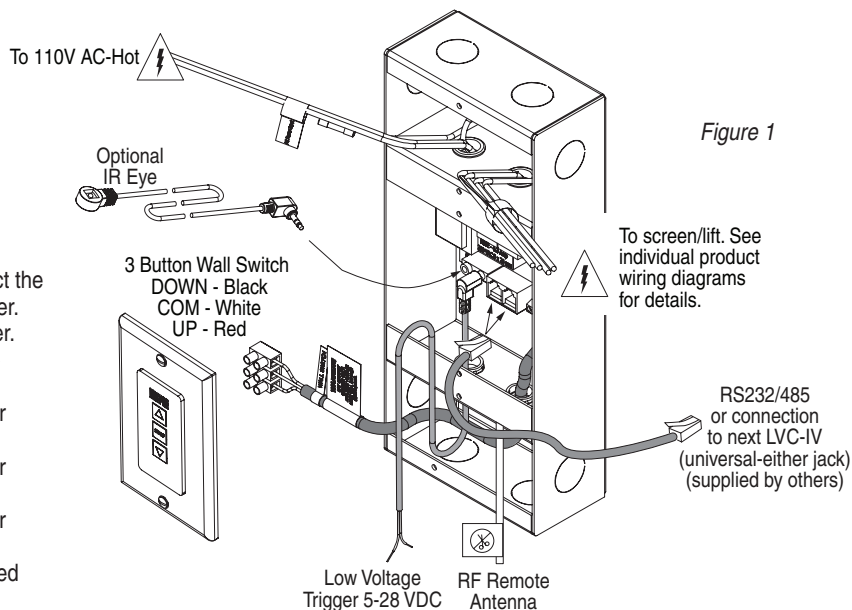

Figure 1
- ① Plug Optional IR Eye into mini plug input provided on LVC-IV (see Figs. 1 and 3).
- ② IR Remote Control transmitter does not need to be "learned" by the LVC-IV. Simply point and operate.
- ③ **Maximum IR Eye cable length is 42".**
- ① Connect remote trigger voltage from projector to the low voltage trigger cable.
- ② Plug the mini-jack plug of the low voltage trigger cable to the LVC-IV (Figure 1 & 4).
- ③ When projector is 'ON' the low voltage output of the projector will cause LVC-IV to deploy projection screen.